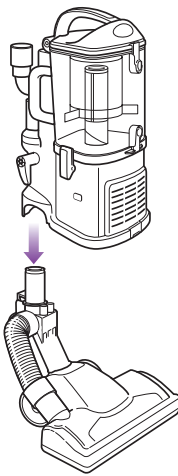

Fig. 8
- 2 Align the tube of the floor nozzle with the tube on the detachable canister and lower until you hear the two pieces click into place. **(Fig. 8)**
- 1 Separate the detachable canister from the floor nozzle. (See page 8, Fig. 8)